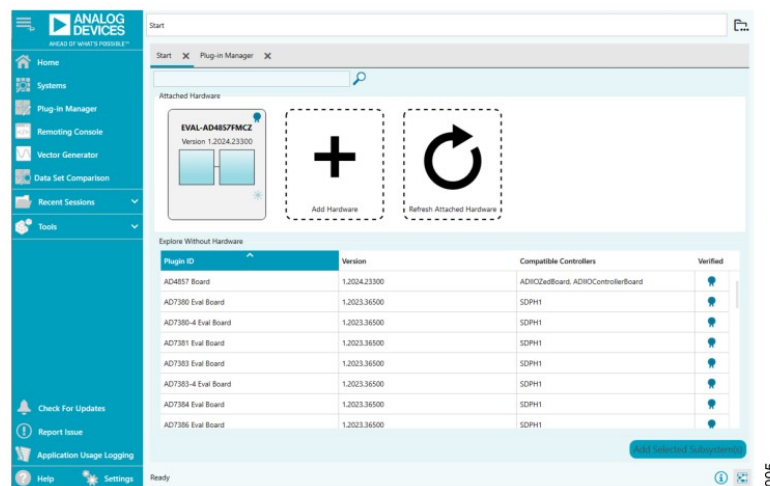

Figure 5. Attached Hardware View
9. Launch the ACE Software from the Analog Devices folder in the Windows Start menu. The EVAL-AD4857FMCZ appears in the ACE Start in the Attached Hardware view, as shown in Figure 5.